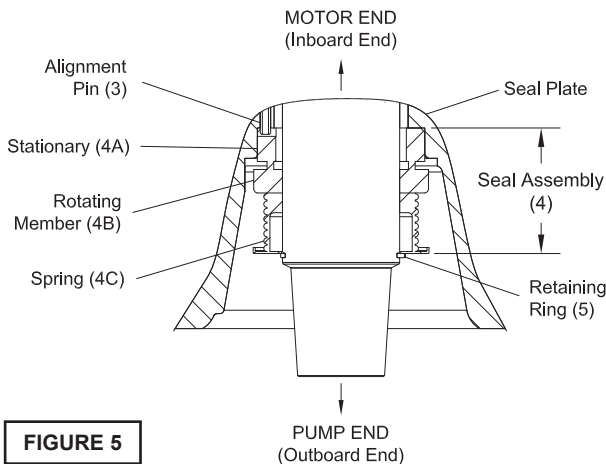

FIGURE 5
- c. A moisture detection circuit with continuity test circuit (see Figure 5)